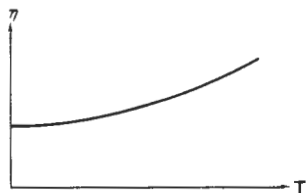

Figure 4-7
**RHEOPECTIC.** This is essentially the opposite of thixotropic behavior, in that the fluid's viscosity increases with time as it is sheared at a constant rate. See Figure 4-7.